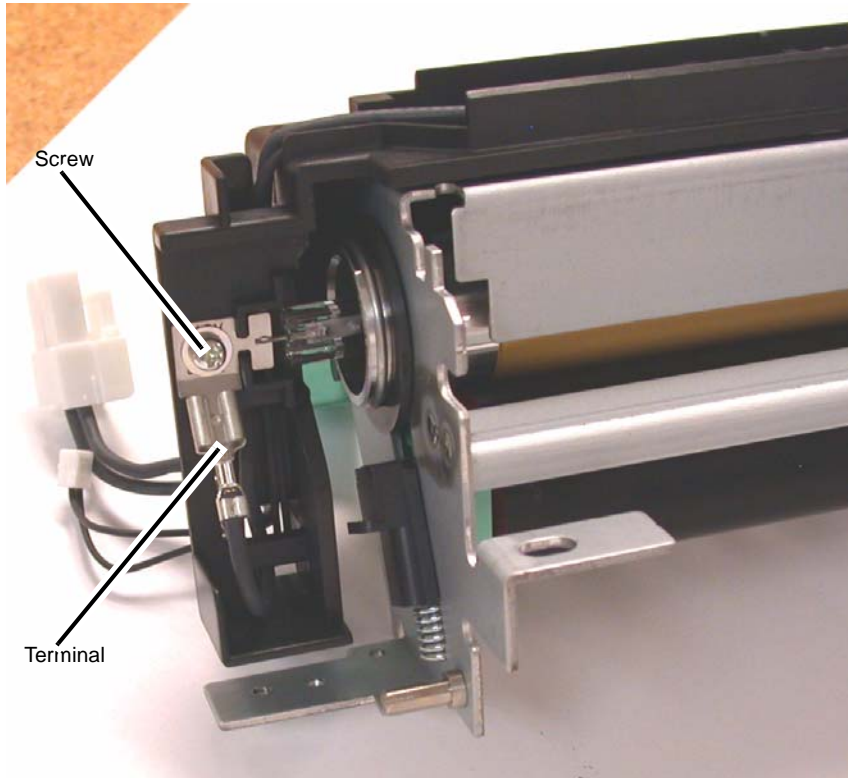

Figure 2 Disconnecting the ACH side of the Fuser Lamp
3. Disconnect the ACH side of the Fuser Lamp (Figure 2).